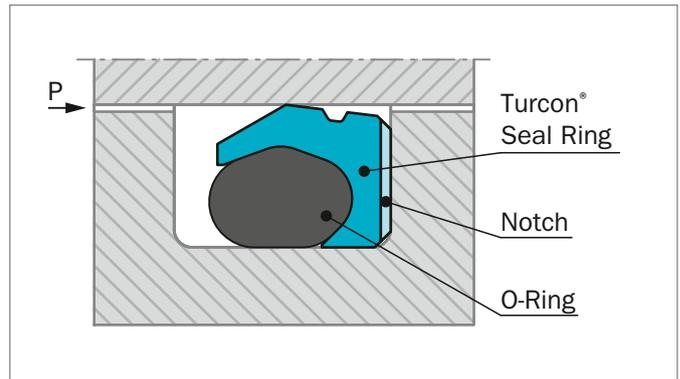

Figure 155: Turcon® Roto VL Seal® with radial notch
*** Use suffix "N" for seals with radial notches, for diameter $d_N < 1,000$ mm (Figure 155).